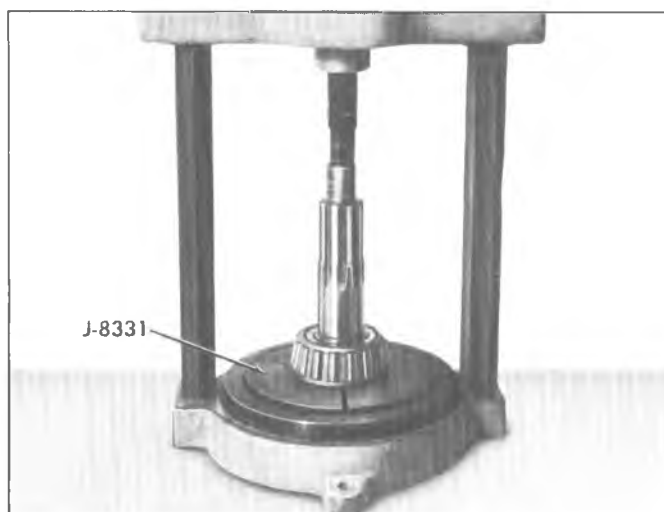

Fig. 7D--Removing Rear Output Shaft Front Bearing
9. Using press plates J-8331, remove front bearing from the shaft as shown in Figure 7D.